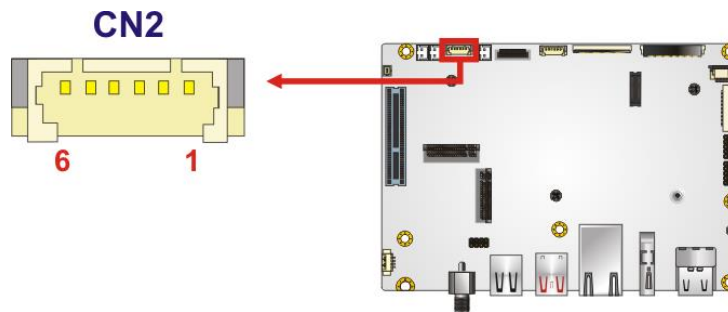

Figure 3-2: Audio Line-out Location
- CN Location:** See **Figure 3-2**